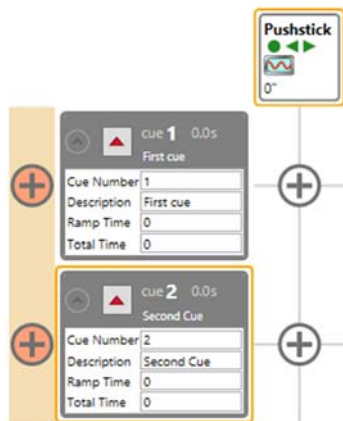

Figure 209
3. The newly created cue will appear in the **Cue Grid** (Figure 209).